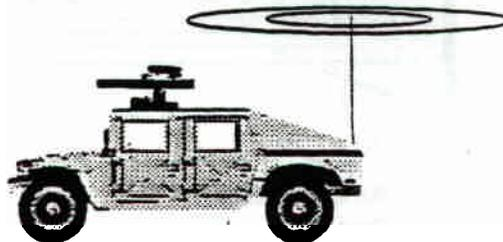

Figure 11
1) Omnidirectional antenna: No attempt is made to direct the energy as it travels or from where it is received. A CB antenna (figure 11) is an example of this type.